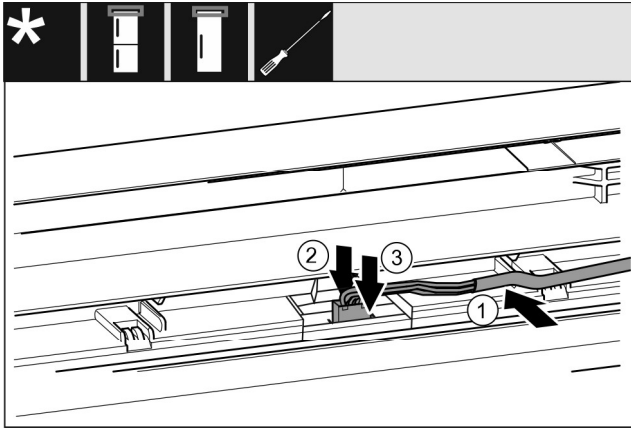

Fig. 44 Fridge/freezer combinations/freezers/cooling units
- ▶ Carefully insert the cable Fig. 44 (1) into the guide in the top door.
- ▶ Press the latching tab Fig. 44 (2) towards the back.
- ▶ Snap in the plug Fig. 44 (3).